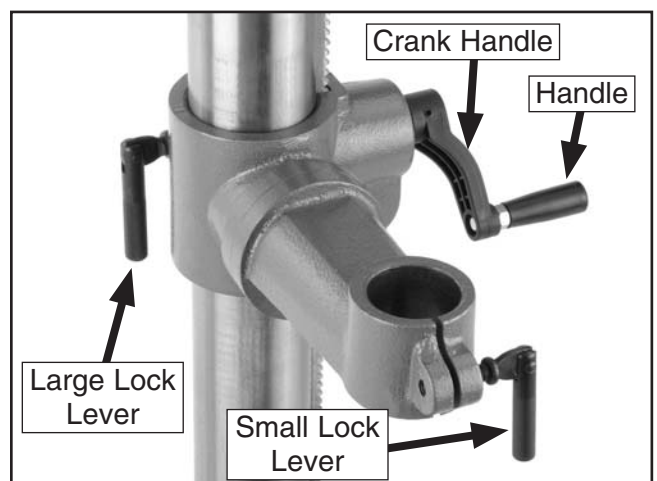

Figure 11. Handles and lock levers installed.
9. Thread the small lock lever into the front part of the table support assembly approximately three turns, for now. The assembly should now be assembled as shown in **Figure 11**.